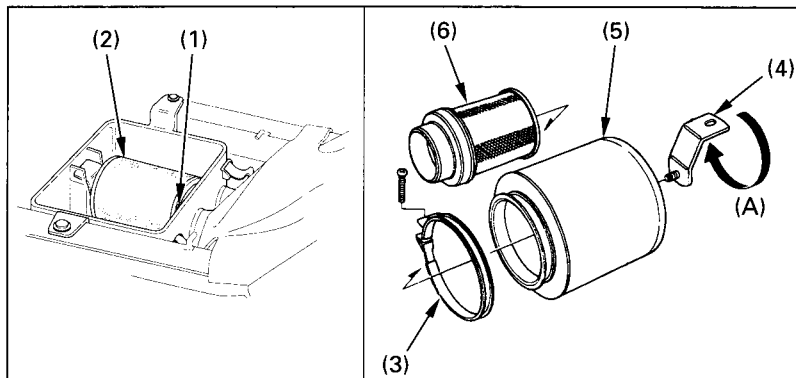

Fig. 4-5 (1) Screw (2) Air cleaner assembly (3) Clamp (4) Mounting bracket (5) Air cleaner (6) Air cleaner body (A) To release
3. Remove the screws (1) (Fig. 4-5) and remove the air cleaner assembly (2) from the air cleaner housing.
4. Unscrew the clamp (3) and remove the mounting bracket (4).
5. Remove the air cleaner (5) from the air cleaner body (6).